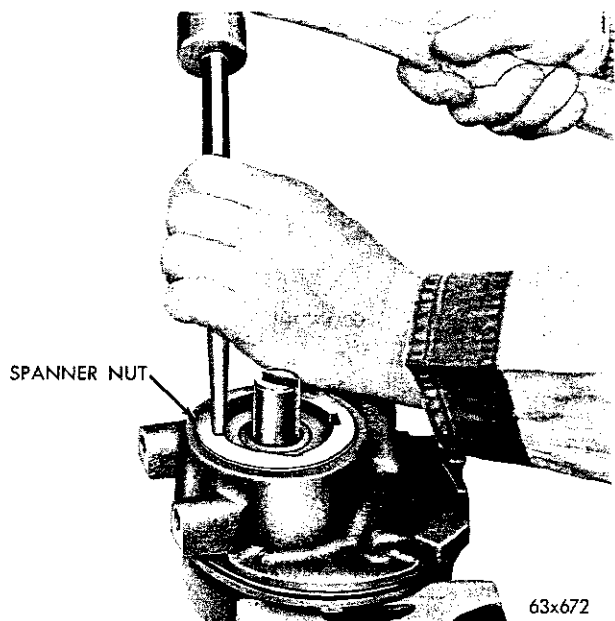

Fig. 60—Removing the Spanner Nut
(4) Use a ¼ inch drift to loosen and remove the spanner nut (Fig. 60).